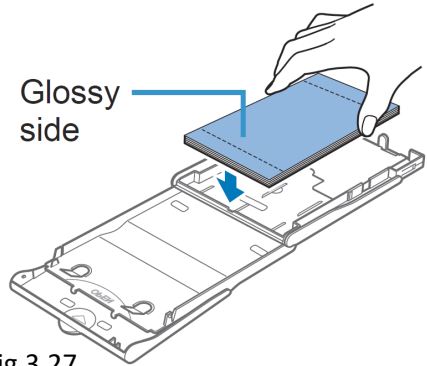

Fig.3.27.
- The printer is located on the left side of the back cover, the position of the printer is indicated in Figure 3.27.